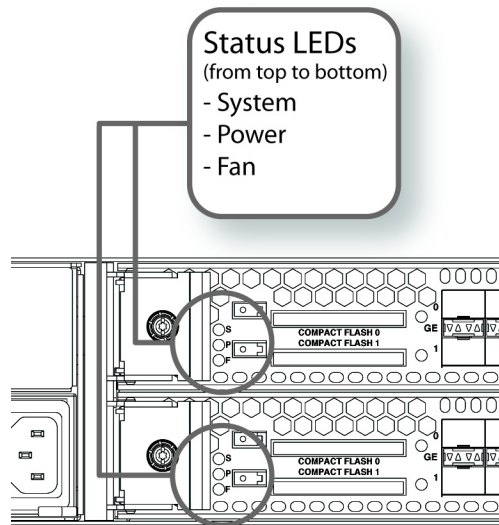

Figure 6-5 System, Power, and Fan Status LEDs on the NAS Blade
- Step 2:* If any of the status LEDs are not green, check the LEDs on the rear of the NAS Blades. Figure 6-5 shows the NAS blade status LEDs.